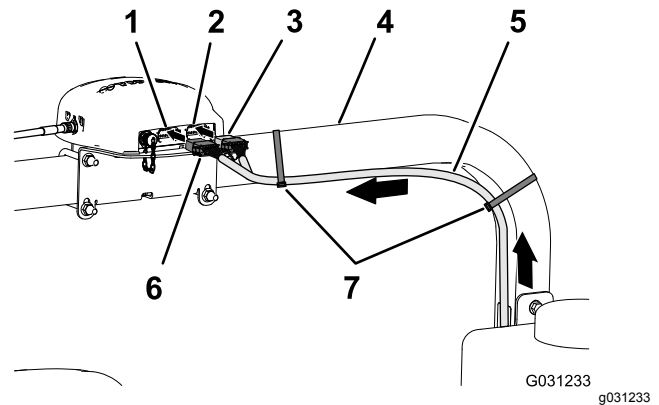

Figure 166
- Route the 390 cm (153-1/2 inches) branch of the data harness along the right ROPS tube with the 12-socket connector (gray) and 12-socket connector (black) up toward the navigation receiver (Figure 166).
7. Secure the 390 cm (153-1/2 inches) branch of the data harness to the right ROPS tube with 2 cable ties as shown in Figure 166.